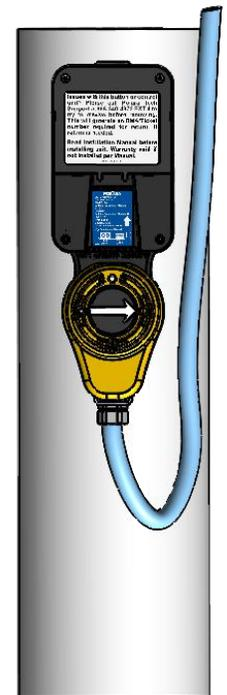

Figure 4
10. Install button cover and test button for proper functionality. (Figure 4)